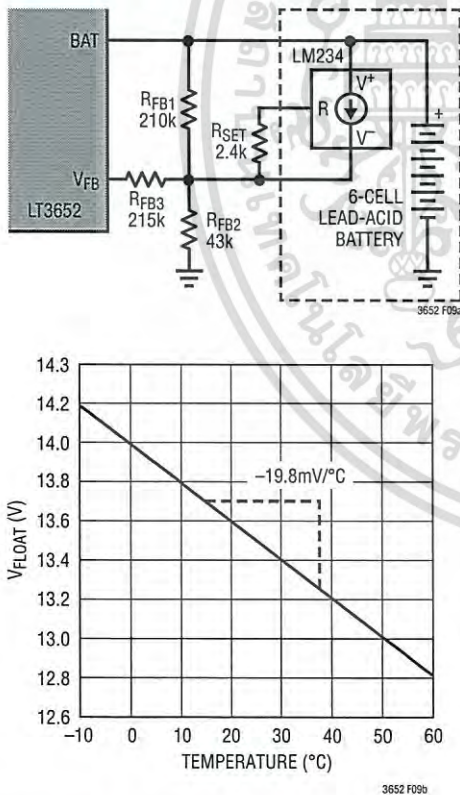

Figure 9. Lead-Acid 6-Cell Float Charge Voltage vs Temperature Has  $-19.8\text{mV}/^\circ\text{C}$  Characteristic Using LM234 with Feedback Network
or  $-19.8\text{mV}/^\circ\text{C}$ . Using the feedback network shown in Figure 9, with the desired temperature coefficient (TC) and  $25^\circ\text{C}$  float voltage ( $V_{\text{FLOAT}(25^\circ\text{C})}$ ) specified, and using a convenient value of  $2.4\text{k}$  for  $R_{\text{SET}}$ , necessary resistor values follow the relations:
While the circuit in Figure 9 creates a linear temperature characteristic that follows a typical  $-3.3\text{mV}/^\circ\text{C}$  per cell lead-acid specification, the theoretical float charge voltage characteristic is slightly nonlinear. This nonlinear characteristic follows the relation  $V_{\text{FLOAT}(1\text{-CELL})} = 4 \times 10^{-5} (T^2) - 6 \times 10^{-3}(T) + 2.375$  (with a  $2.18\text{V}$  minimum), where  $T$  = temperature in  $^\circ\text{C}$ . A thermistor-based network can be used to approximate the nonlinear ideal temperature characteristic across a reasonable operating range, as shown in Figure 10.